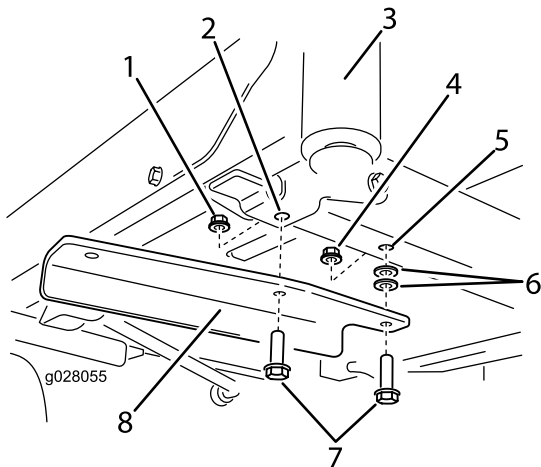

Figure 3
4. Secure the bracket to the frame using 2 bolts (3/8 x 1-1/4 inches), 2 washers and 2 locknuts (3/8 inch) (Figure 3). One locknut is from loose parts and the other is reused from earlier removal.